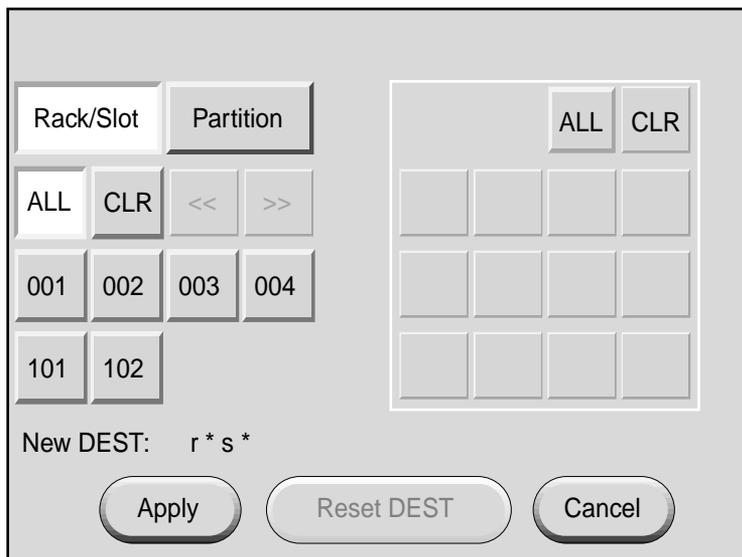

Figure 1-7 Destination Selection Window
1. Touch the **DEST:** button in the home window and the destination selection window, shown in Figure 1-7 appears. Use this window to select the bricks or partitions that you want to power on.